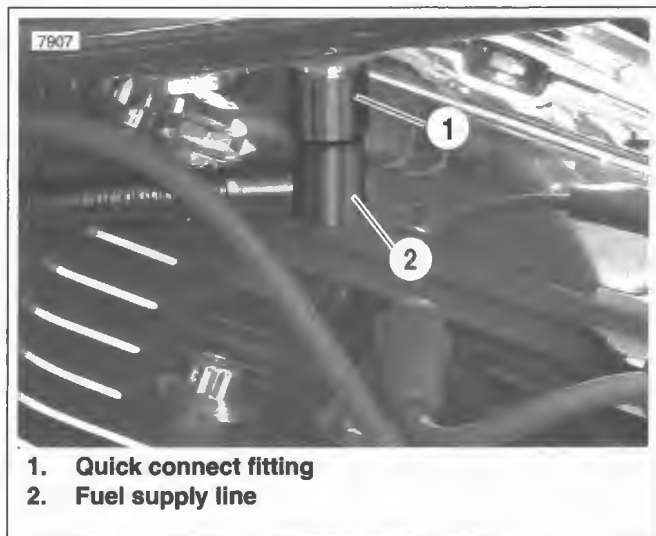

Figure 4-18. Fuel Supply Line Fitting
3. See Figure 4-18. Pull up on chrome sleeve of quick-connect fitting (1) and pull down on fuel supply line (2) to disconnect.
5. See Figure 4-18. Install fuel line fitting.